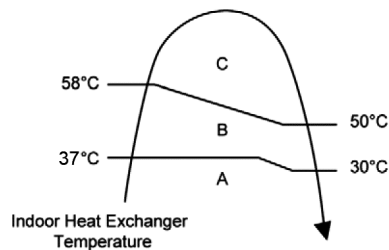

Figure 1
- 1 Automatic vertical airflow direction can be set using remote control; the vane swings up and down within the angles as stated above. For heating mode operation, the angle of the vane depends on the indoor heat exchanger temperature as Figure 1 below. It does not swing during fan motor stop. When the air conditioner is stopped using remote control, the vane will shift to close position.